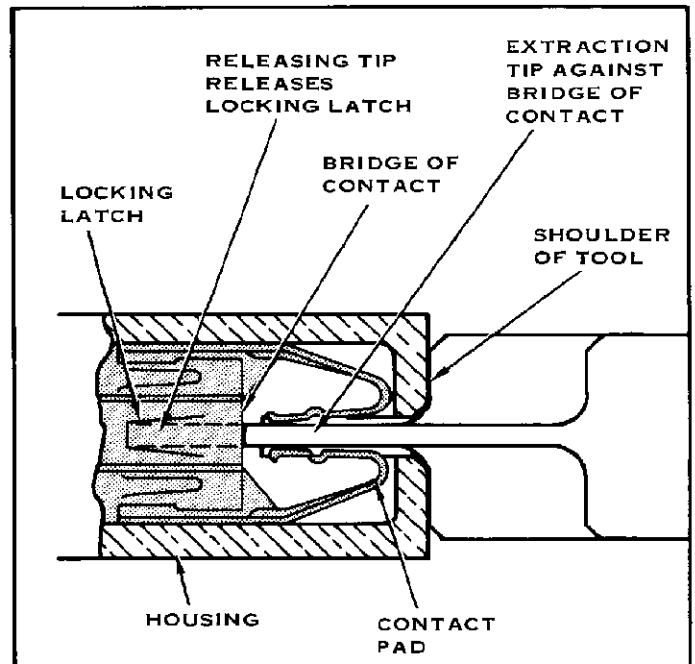

FIGURE 2
- Insert the Releasing Tip into the Contact's Cavity until the Shoulder of the Tool bottoms on the Housing. At this point, the Releasing Tip has released the Locking Latch of the contact and the Extraction Tip is against the Bridge of the contact as shown in Figure 2.